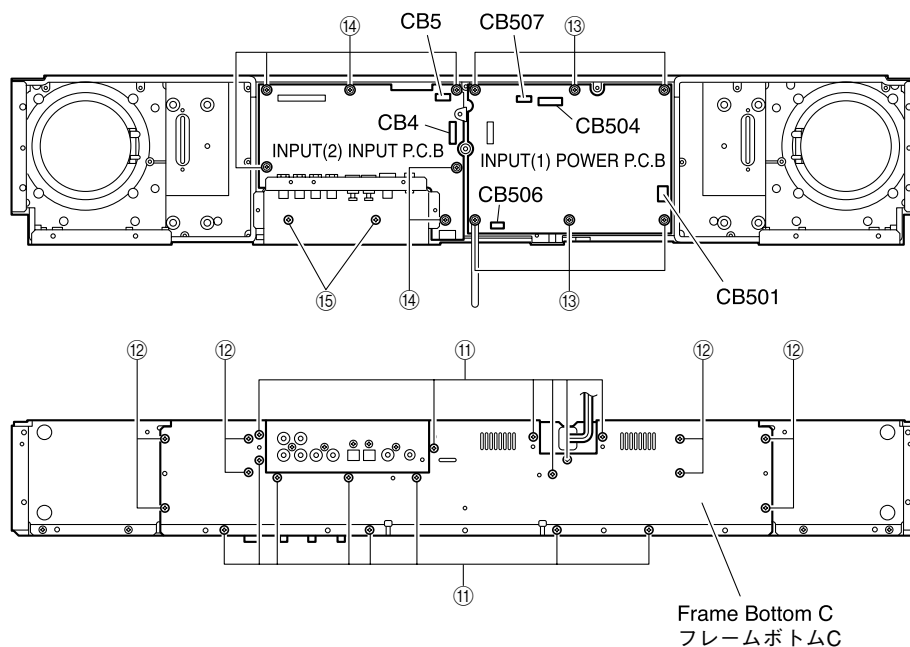
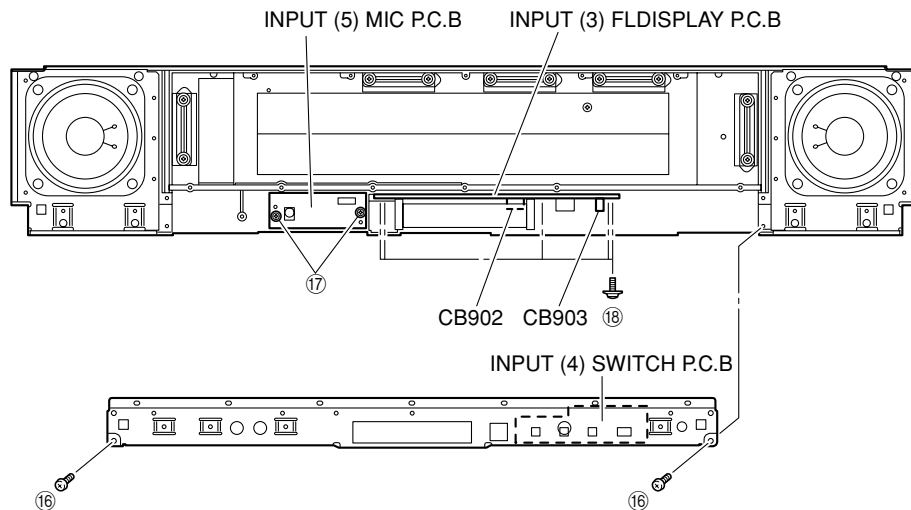

Fig. 4
Fig. 5
- a. Remove 14 screws (11) and 8 screws (12). (Fig. 4)
- b. Remove connector CB501. (Fig. 4)
- c. Remove the Frame Bottom C. (Fig. 4)
- a. ⑪のネジ14本、⑫のネジ8本を外します。(Fig. 4)
- b. コネクターCB501を外します。(Fig. 4)
- c. フレームボトムCを取り外します。(Fig. 4)
10. Removal of INPUT (1) POWER P.C.B.
- a. Remove connectors CB4, CB504, CB506 and CB507. (Fig. 4)
- b. Remove 6 screws (13). (Fig. 4)
- c. Remove the INPUT (1) POWER P.C.B.. (Fig. 4)
- a. コネクターCB4、CB504、CB506、CB507を外します。(Fig. 4)
- b. ⑬のネジ6本を外します。(Fig. 4)
- c. INPUT(1)POWER P.C.B.を取り外します。(Fig. 4)
11. Removal of INPUT(2) INPUT P.C.B.
- Remove connector CB5. (Fig. 4)
- Remove 6 screws (14) and 2 screws (15). (Fig. 4)
- Remove the INPUT (2) INPUT P.C.B.. (Fig. 4)
12. Removal of INPUT (4) SWITCH P.C.B.
- Remove connector CB903. (Fig. 5)
- Remove 2 screws (16). (Fig. 5)
- Remove the INPUT (4) SWITCH P.C.B.. (Fig. 5)
13. Removal of INPUT (5) MIC P.C.B.
- Remove 2 screws (17). (Fig. 5)
- Remove the INPUT (5) MIC P.C.B.. (Fig. 5)
14. Removal of INPUT (3) FLDISPLAY P.C.B.
- Remove connector CB902. (Fig. 5)
- Remove 5 screws (18). (Fig. 5)
- Remove the INPUT (3) FLDISPLAY P.C.B.. (Fig. 5)
- コネクタ-CB5を外します。(Fig. 4)
- 14のネジ6本, 15のネジ2本を外します。(Fig. 4)